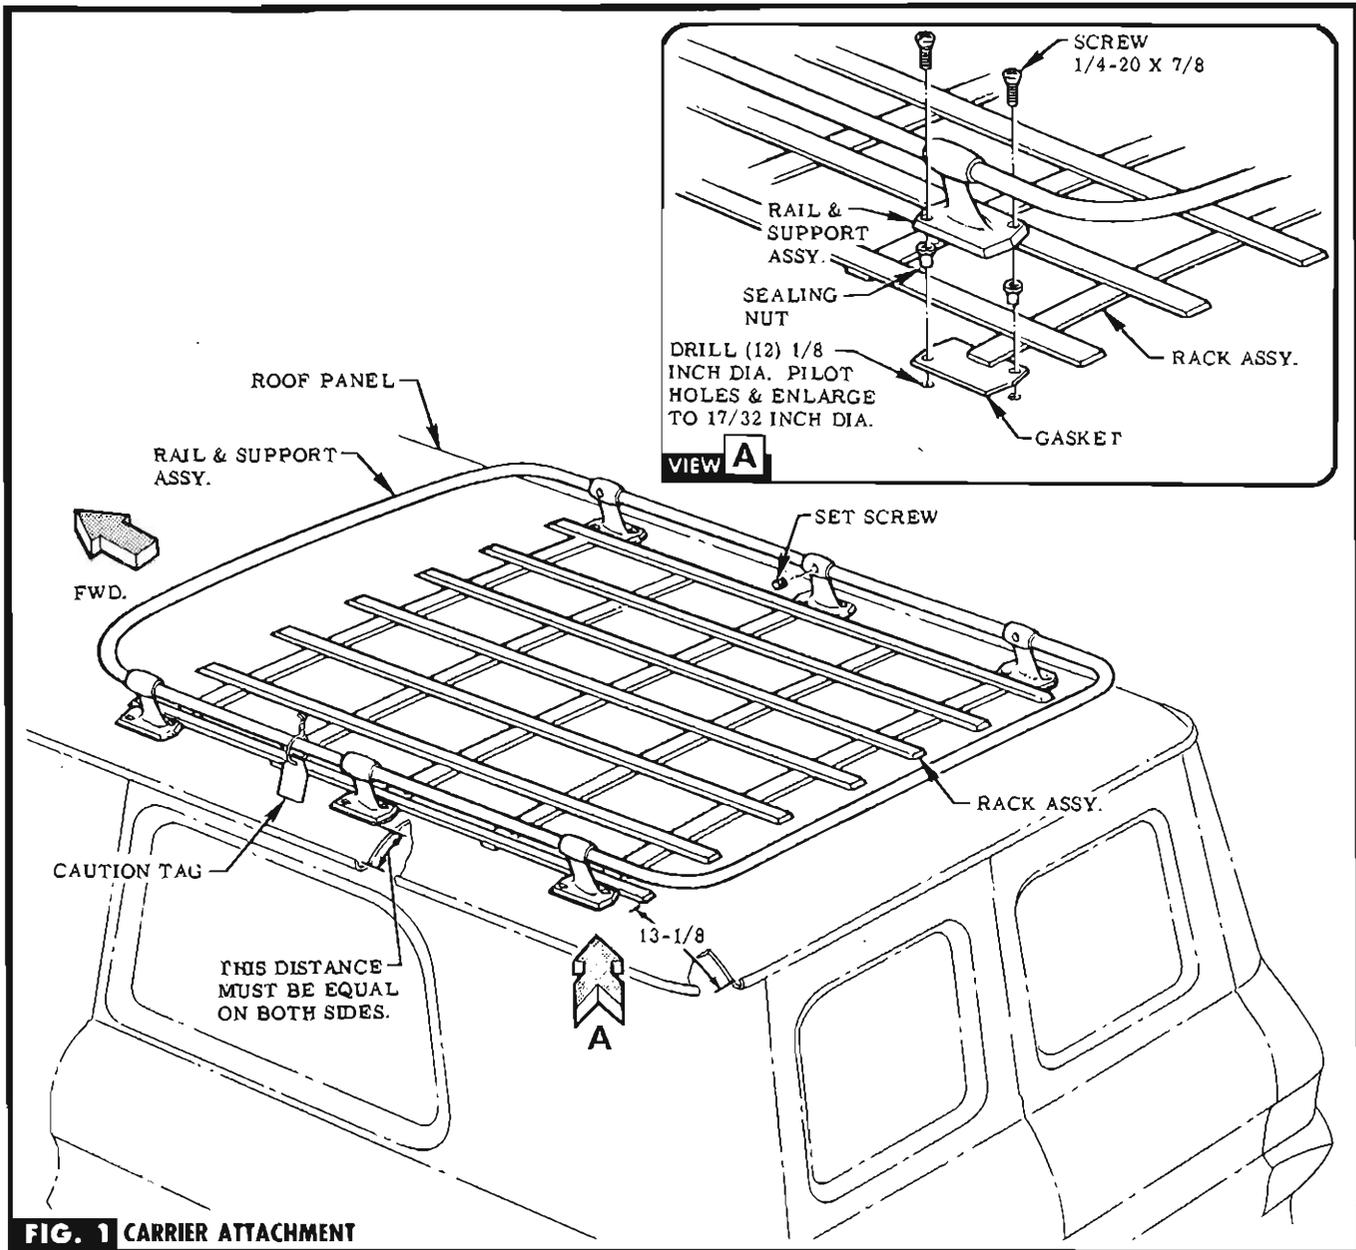

FIG. 1 CARRIER ATTACHMENT
STEP 3 PLACE RACK ON ROOF PANEL & ALIGN. SEE FIG. 1 & VIEW A.
STEP 4 PLACE RAIL & SUPPORT OVER ENDS OF RACK CROSS BARS & ADJUST SUPPORTS TO FIT ROOF SURFACE. SEE FIG. 1 & VIEW A.
CATIONS. REMOVE RAIL & SUPPORT. SEE FIG. 1.
STEP 9 PLACE RACK OVER GASKETS, INSTALL RAIL & SUPPORT ON RACK & GASKET WITH SCREWS PROVIDED. TIGHTEN SET SCREWS IN SUPPORTS. SEE FIG. 1 & VIEW A.
NOTE Caution tag must be in place for customer information on the use of carrier. SEE FIG. 1.